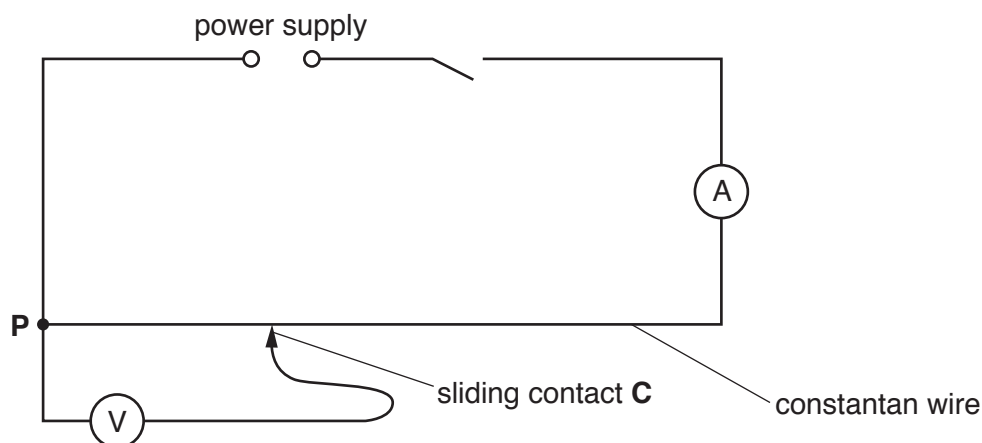
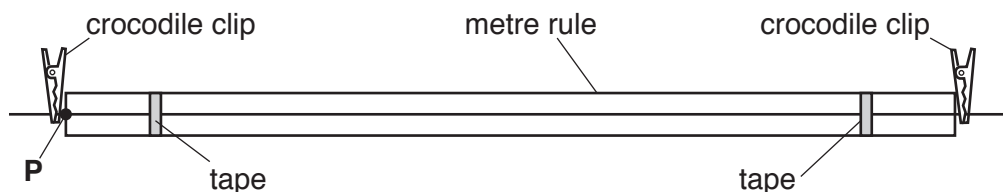

Fig. 2.1
Fig. 2.2
- (vi) Two suitable terminals (e.g. crocodile clips) attached to the constantan wire at the ends of the metre rule so that connections can be made to the circuit shown in Fig. 2.1.
- (viii) Sufficient connecting leads to set up the circuit shown in Fig. 2.1.
1. The circuit is to be set up for the candidates as shown in Fig. 2.1.
4. The wire must be attached to the metre rule as shown in Fig. 2.2.
Check that the circuit is arranged as shown in Fig. 2.1 and Fig. 2.2.